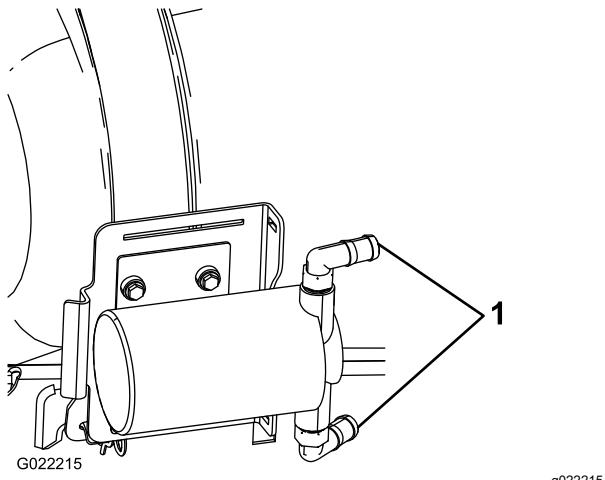

Figure 9
5. Attach the pump hosebars as shown in Figure 9.